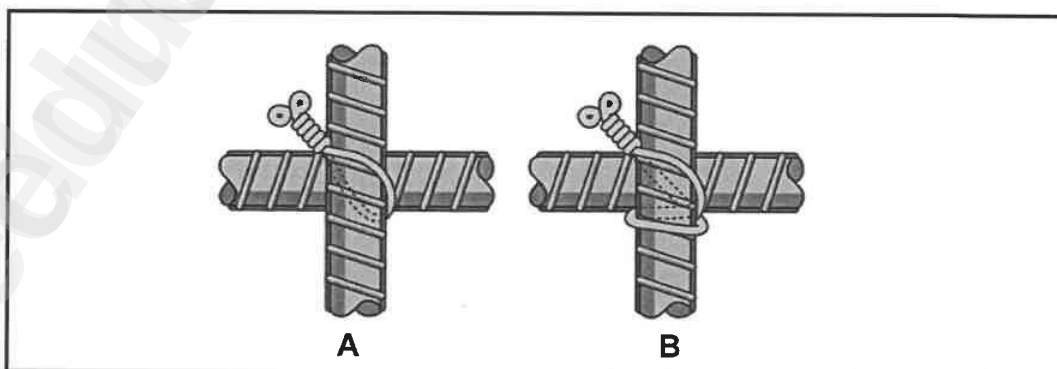

FIGURE 6.2
- 6.2 FIGURE 6.2 below shows joining methods of steel bars used in reinforced concrete.
- 6.2.2 Identify the type of bars used in FIGURE 6.2. (1)